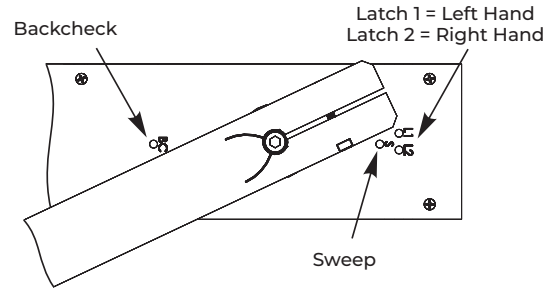

Figure 15
1. With provided 1/8" hex wrench, completely tighten latch and sweep valves by turning clockwise. This will allow for an easier closer-to-door connection. (Figure 15)